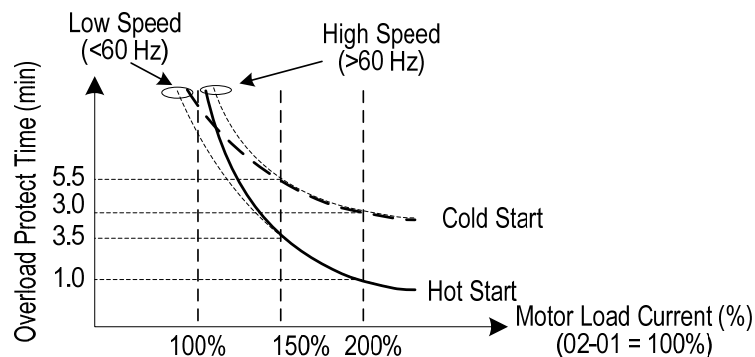

Figure 4.3.71 Motor overload protection curve (example of standard motor)
- Refer to Figure 4.3.71 for the example of motor overload protection standard curve (08-05 = x0xxb).